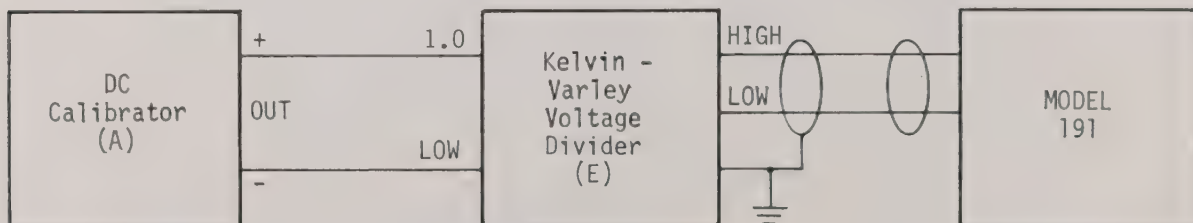

FIGURE 3-1. Test Circuit For 200mV And 2V Accuracy Check.
- Disconnect test leads at the DC calibrator (A) and short them. Depress the Model 191 NULL button. Verify a display indication of 00.000mV ± 0.001 mV flashing.
- Connect the DC calibrator (A), Kelvin-Varley Voltage Divider (E) and Model 191 as shown in Figure 3-1. Set the voltage divider (E) for .0190000 output.
- Temporarily disconnect the test leads from the DC calibrator (A) and short them. Depress Model 191 NULL button for a display indication of 00.000 ± 0.001 mV flashing.
- Reconnect the DC calibrator (A) and set to an output of +10.00000V.
- Verify that the Model 191 reading is between +189.978 to +190.022mV. Note that the allowable reading includes a 6 digit allowance for the uncertainty of the DC calibrator (A) and Voltage Divider (E).
- Select the 2V range and release the NULL button. Set the Kelvin-Varley Voltage Divider (E) to .190000 output.
- Verify that the Model 191 reading is between +1.89981 and +1.90019V. Note that the allowable reading includes ± 4 digits for DC calibrator (A) uncertainty.